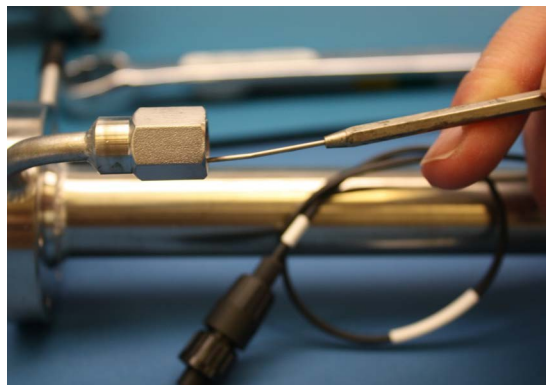

Figure B-14 Removing excess seal tape from flange
3. Remove excess seal tape from the flange opening and threads and check threads for galling. Refer to Figure B-14.